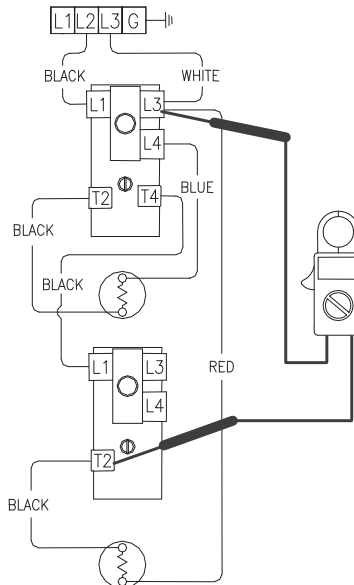

Figure 32
(see Figure 32).
4. See Figure 32 above. Check across terminal L3 of upper thermostat & T2 of lower thermostat.